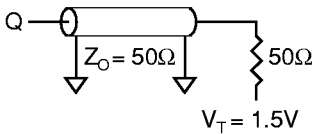
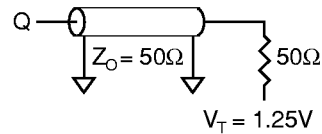

Figure 1
Figure 3
1. Test conditions as specified with the output loading as shown in Figure 1 for 3.3V I/O and Figure 3 for 2.5V I/O unless otherwise noted.
Output load	See Figures 1 and 2
Output load	See Figures 3 and 4